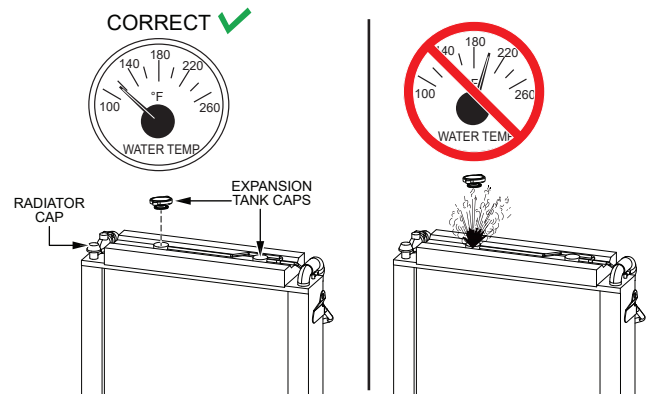

Figure 63. Radiator And Expansion Tank Caps
1. Remove the **radiator pressure cap** (Figure 63) and both **expansion tank caps** only if the coolant temperature is below 120°F (50°C).